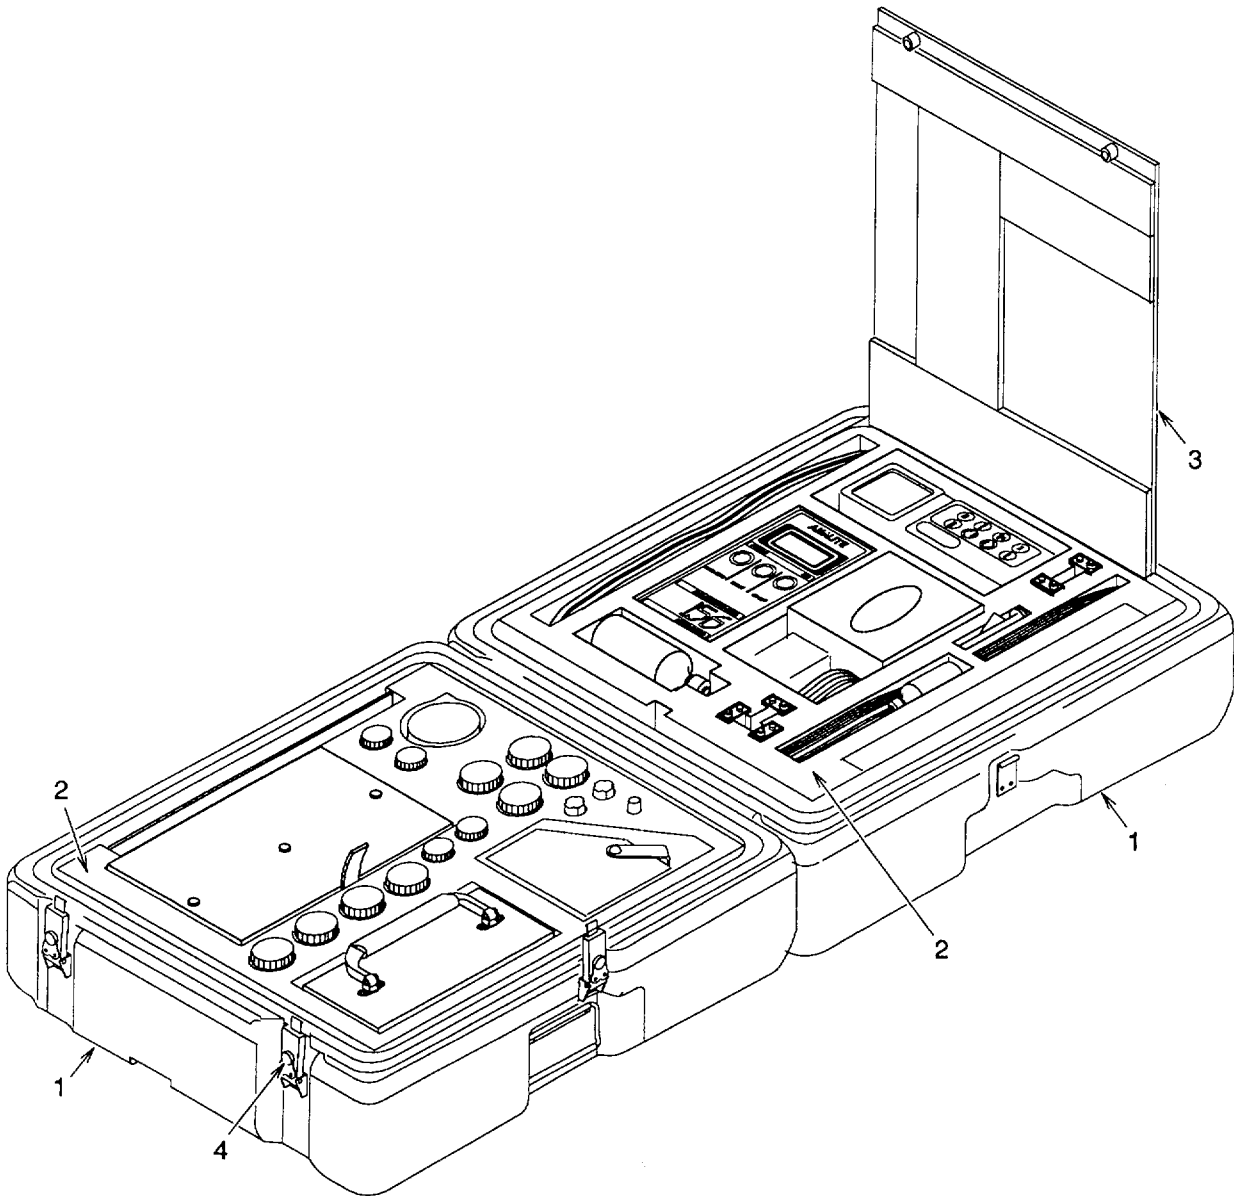

Figure 3-5. Carrying Case
- a. Inspection. See figure 3-5.
- (1) Check case (1) for any visible damage. If damaged, notify supervisor.
- (2) Open case (1) and remove all components. Note location for repacking.
- (3) Check foam liners (2) and insert divider (3) for any visible damage. If damaged, notify supervisor.
- (4) If case (1) and liner (2) are not damaged, repack all components as noted during removal. Close and secure case.